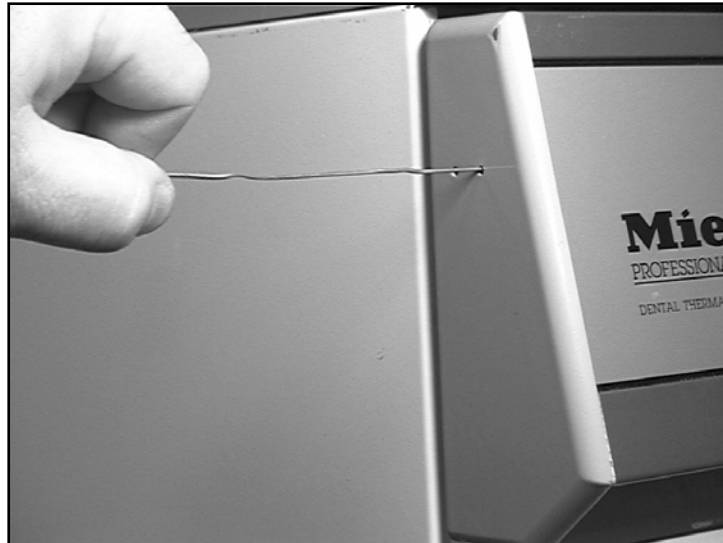

Figure 3-11: DOS C 60 Priming
- Two microswitches are located on the left side of the fascia panel. With the machine turned on, push and hold in the rear microswitch with an appropriate probe (ex. a paper clip), figure 3-11, until the dispenser hose has been primed.